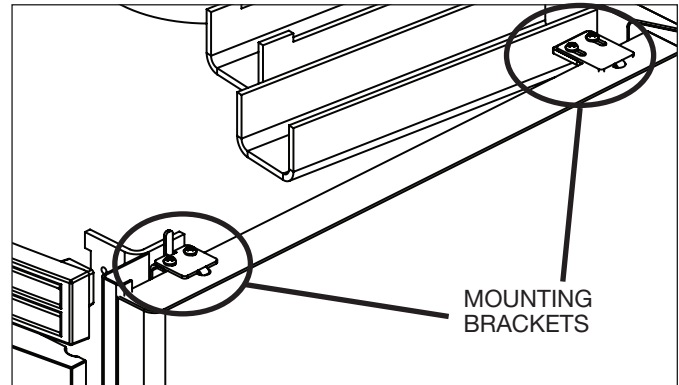

Figure 3: side panel mounting brackets.
3. Gently place the Soapstone Side Panel (the edge with the larger corner radius to the front) near the Base. Lift the Panel up and engage the holes in the panel onto the pins in the Base."Figure 3: NEOSTone side panel to Pins."